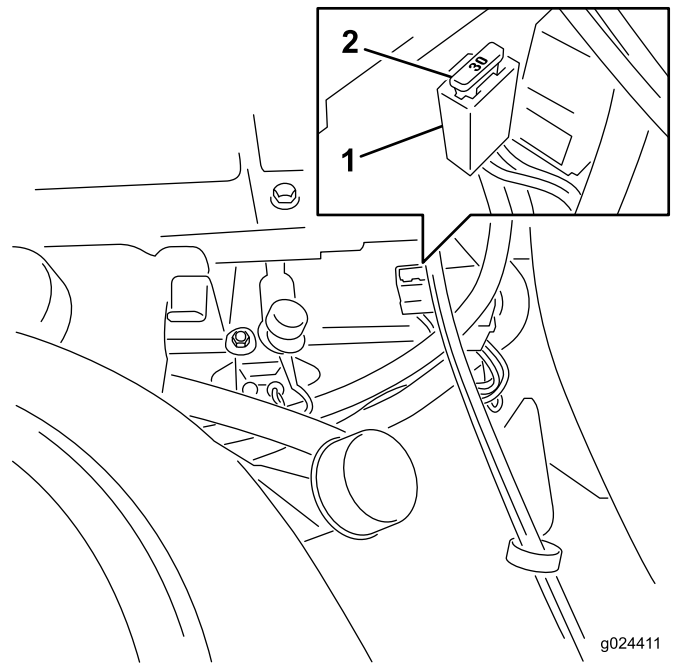

Figure 55
Note: The fuses are located on right hand console next to the seat (Figure 55).
4. Align a new fuse with the slot in the fuse block (Figure 55).
5. Push the fuse into the fuse block until the fuse is seated (Figure 55).